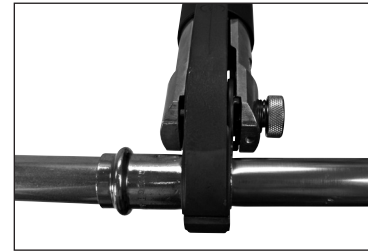

Figure 8 — Jaw set should be square to tubing
4. Make sure the tool is perpendicular to the tubing and depress the switch (*Figure 8*). Keep the trigger depressed from the time the cycle begins and the rollers contact the jaw arms until the end of the entire crimp cycle.